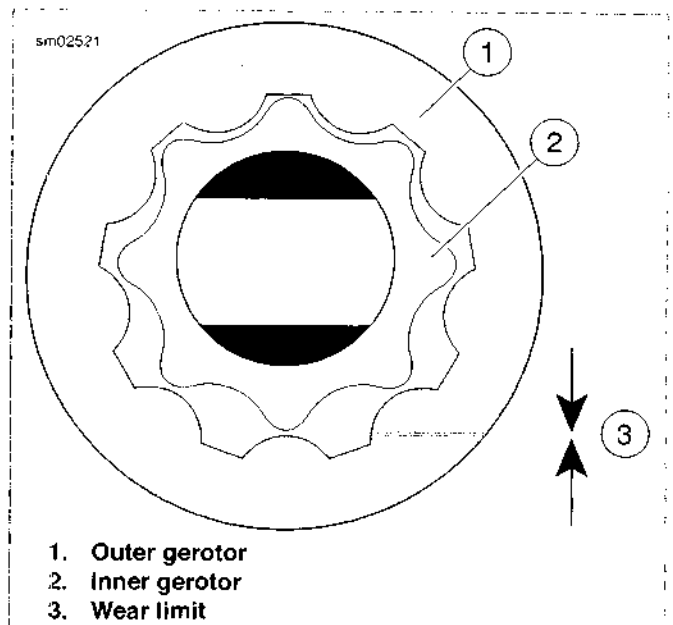

Figure 3-139. Measure Gerotor Sets for Wear
6. See Figure 3-139. Check gerotor wear.